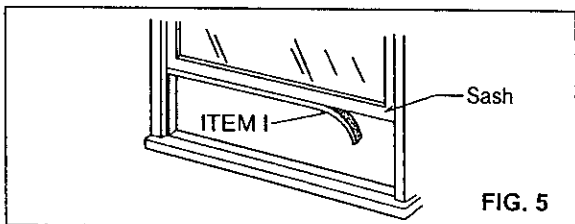

FIG. 5
**3** Cut the FOAM STRIP (ITEM I) to fit the underside of the window sash. Peel off the backing and attach the FOAM STRIP as shown in Fig. 5.